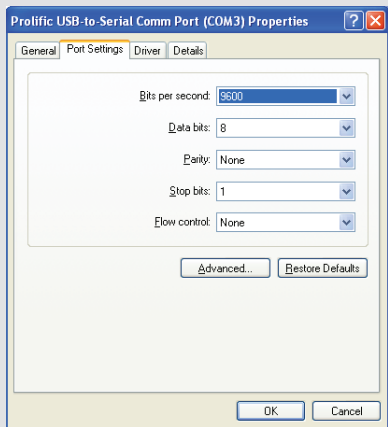

Figure 5.5
1. Right-click on the Prolific USB-to-Serial Comm Port device in the Device Manager list and select Properties from the pop-up menu (Figure 5.5).